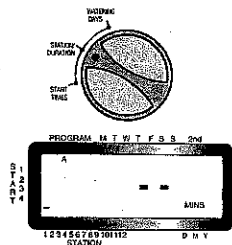

Figure 6: Station Duration for Program A
- ◆ Turn the rotary dial to the **Station Duration** position in either the A or B program. The display will show which program you have selected with an "A" or "B" and the -- MINS and the cursor blinking at station "1" [See Figure 6].